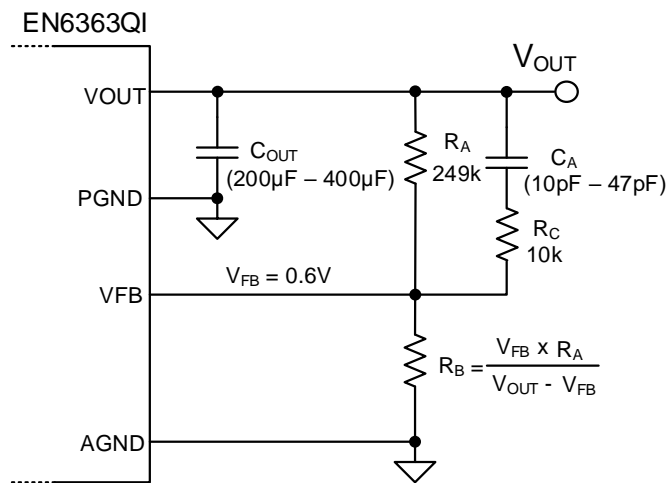

Figure 2: VOUT Resistor Divider & Compensation Capacitor
5) Output Voltage Settings (J1) - The output voltage may be adjusted quickly by placing a jumper one of the selections on J1. The voltages are pre-set by the resistors R33, R25, R18, R12, R10 which corresponds to 3.3V, 2.5V, 1.8V, 1.2V and 1.0V respectively. The compensation CA may be adjusted according to Table 1 for best results. The output voltage may also be adjusted to any voltage as indicated by the equation for RB shown in Figure 2.